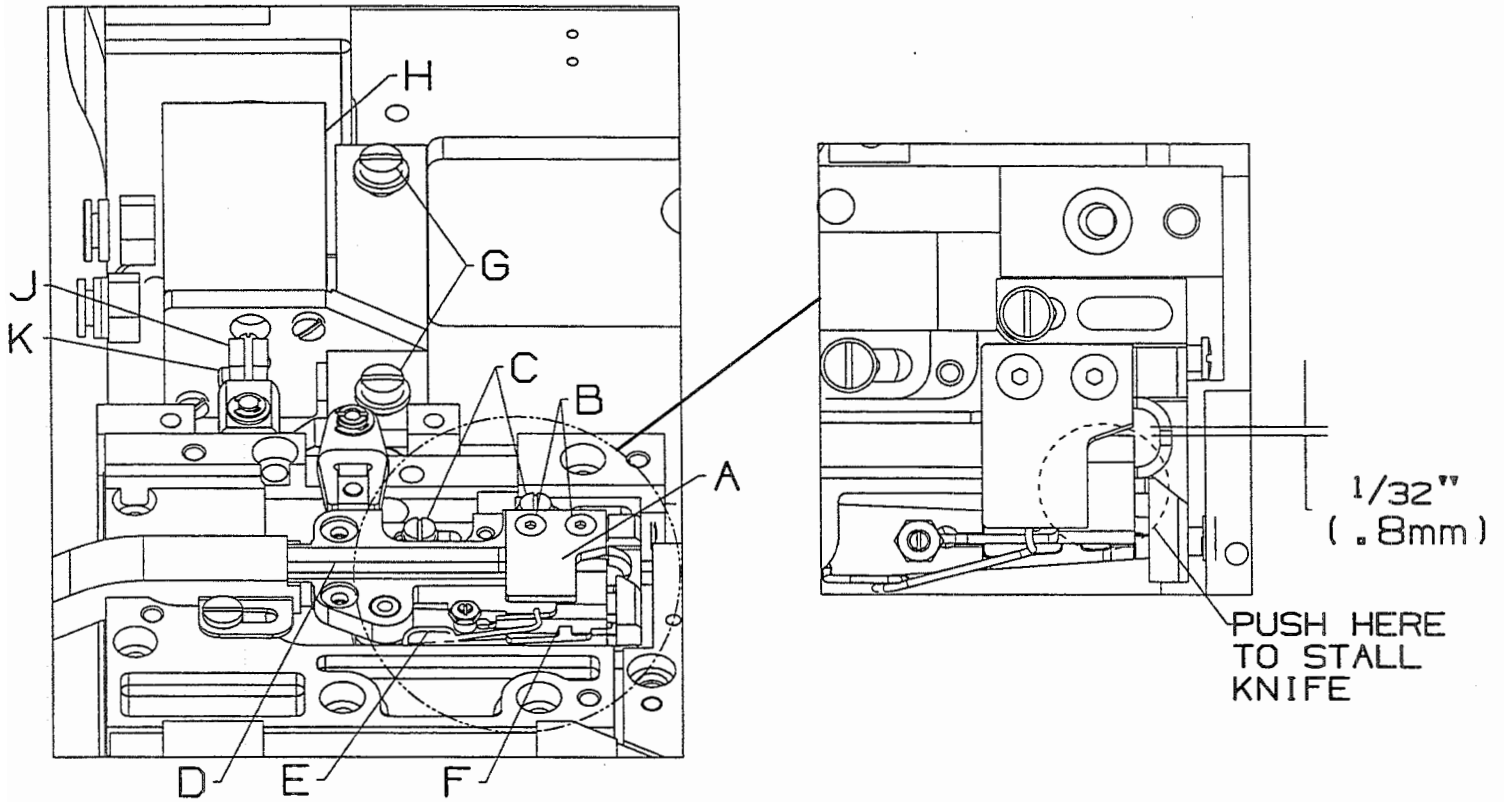

FIG 1
Remove suction cover, filter cover plate and the inlets. Remove the upper knife (A, Fig. 1) by loosening two screws (B) sharpen if necessary. Remove the lower knife (F) by unhooking the knife spring (E) and sliding the lower knife forward and up, sharpen if necessary. Replace the knives in the reverse manner.
IMPORTANT: Be sure that lower knife does NOT strike against knife housing or feed chamber cover. Adjustment should be accomplished by loosening two screws (G, Fig. 1) and reposition air motor (H) left or right slightly, but under extreme circumstances it may become necessary to shorten the stroke of lower knife travel by repositioning coupling (J).
Carefully press against lower knife (F, Fig. 1) until air motor stalls. With treadle still depressed, check the knife cross over. Cross over of lower knife to upper knife is positioned correctly when the lower knife is 1/32 inch (.8mm) from the front of upper knife as shown in Figure 1. If adjustment is required, loosen screw (K) and reposition coupling (J) as required to obtain specified dimension.